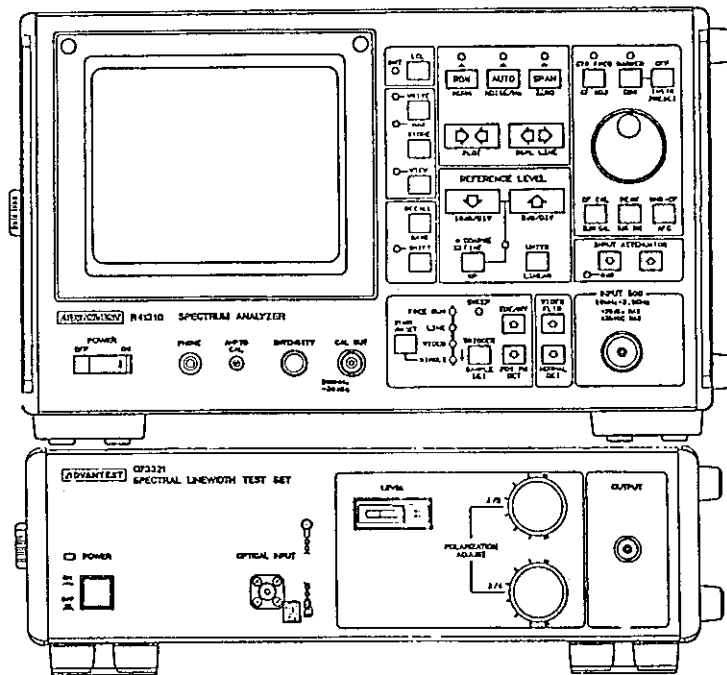

Figure 1 - 2 Q7332 optical spectral line width measurement system
- (2) The Q7332/M optical spectral line width measurement system consists of the Q73321/M optical measurement device and the R4131D analyzer/indicator. The measurement system measures spectrum distribution of a DFB laser. (See Figure 1 - 2.)